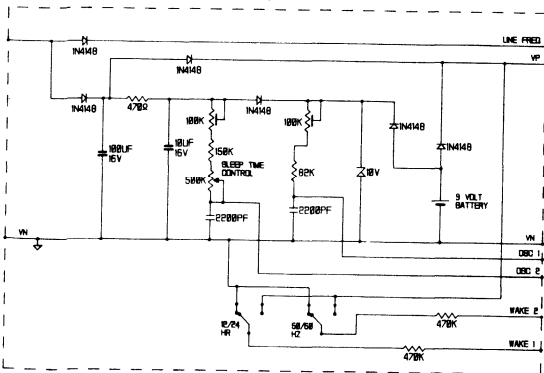

Fig.9 POWER SUPPLY INTERFACE WITH STANDBY OPTION
- 2. With battery standby facility Fig.9